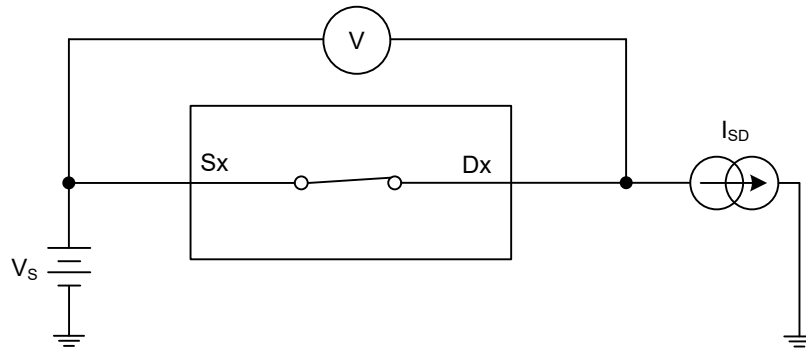

Figure 1. On-Resistance measurement setup
The on-resistance of a device is the ohmic resistance between the source (Sx) and drain (Dx) pins of the device. The on-resistance varies with input voltage and supply voltage. The symbol R_{ON} is used to denote on-resistance. The measurement setup used to measure R_{ON} is shown in Figure 1. Voltage (V) and current (I_{SD}) are measured using this setup and R_{ON} is computed with $R_{ON} = V / I_{SD}$: